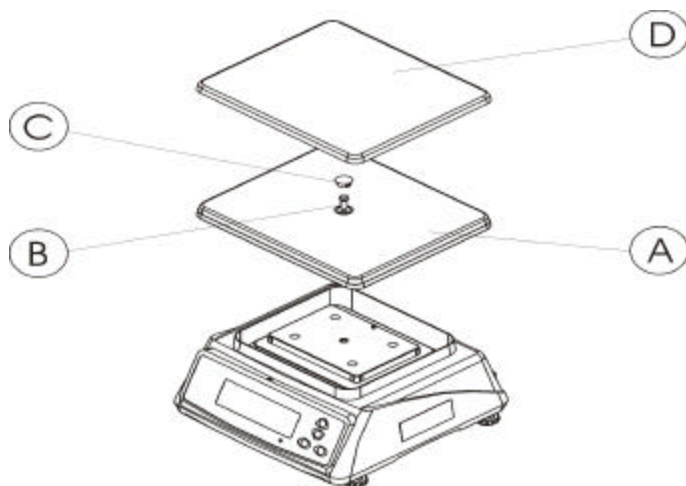

FIG 1
- 1.2 Locks the plastic platter (**FIG 1 A**) to the platter holder, with the screw (**FIG 1 B**) included, and then apply the screw rubber cap (**FIG 1 C**).
- 1.3 Place the stainless steel platter (**FIG 1 D**) onto the plastic platter.